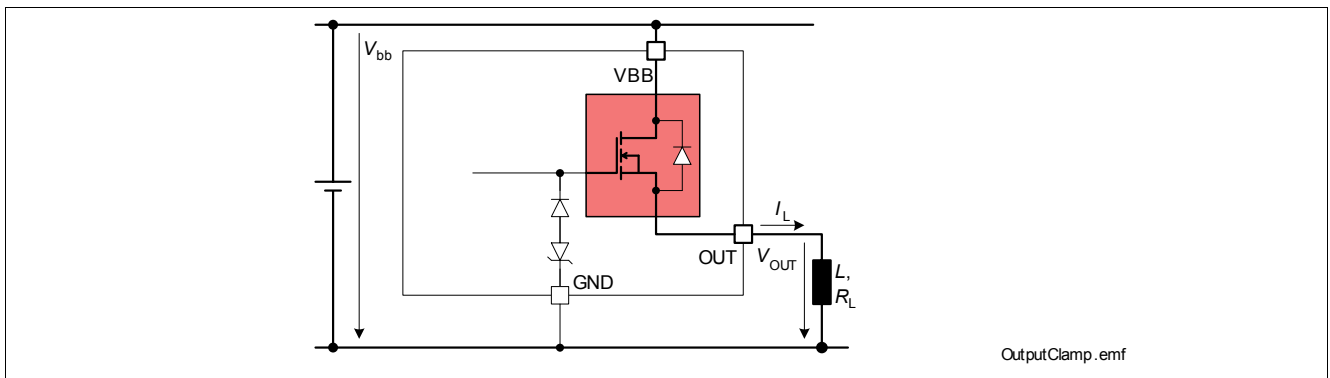
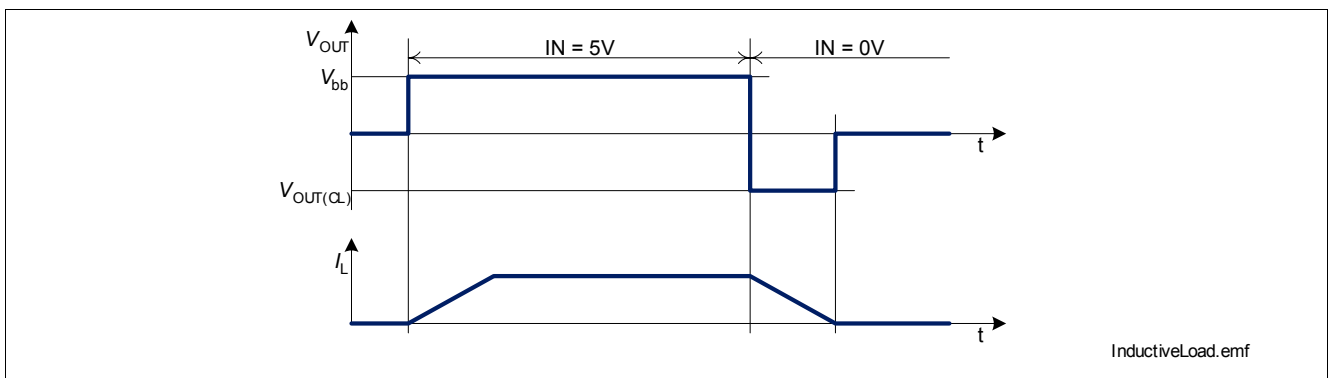

Figure 7 Output Clamp (OUT1 and OUT2)
Figure 8 Switching an Inductance
- 4) Pulse shape represents inductive switch off: $I_L(t) = I_L(0) * (1 - t / t_{\text{peak}})$; $0 < t < t_{\text{peak}}$. Please see Figure 8
To prevent destruction of the device, there is a voltage clamp mechanism implemented that keeps that negative output voltage at a certain level ($V_{OUT(CL)}$). See Figure 7 and Figure 8 for details. Nevertheless, the maximum allowed load inductance is limited.